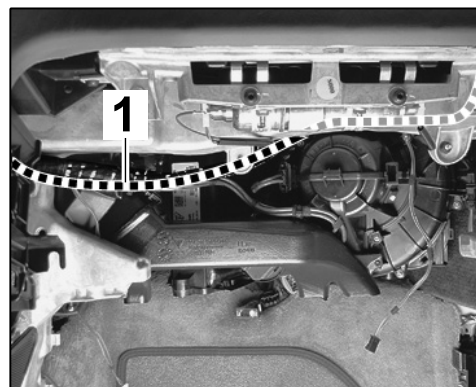

Figure 6
- 2.3.2 Route GPS antenna line ⇒ *Figure 6*